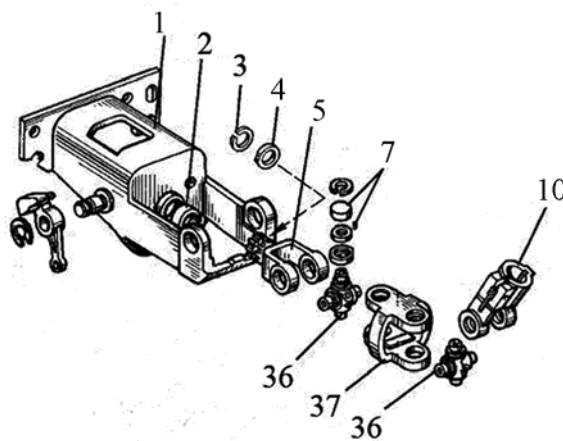

Figure 7.14
- 3) insert bushing 2, (Figure 7.14) in arm 1;
- 4) lubricate inside surface of bushing (2) with grease LITOL-24» and insert cardan connection (5), (7), (10) (36) (37) inside bushing;
- 5) put washer (4) and lock with retainer ring (3);